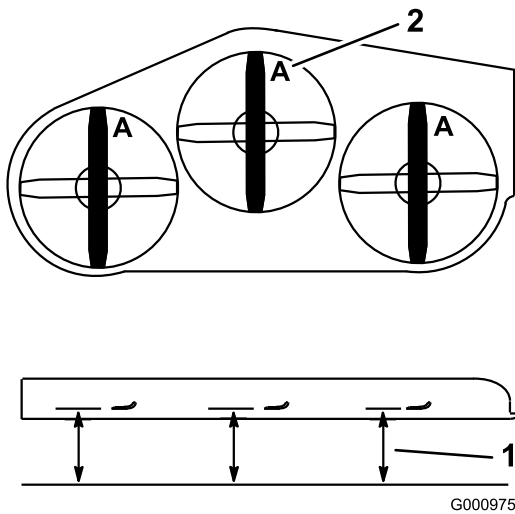
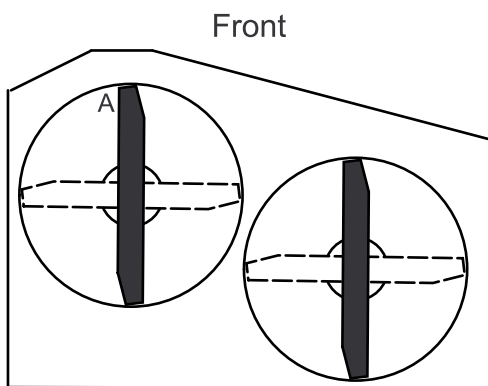

Figure 69
Figure 70
- With the machine on level surface, position one blade front-to-rear. Measure at **A** and from level surface to the cutting edge of the blade tips (Figure 69). For 36 inch mower decks use Figure 70.